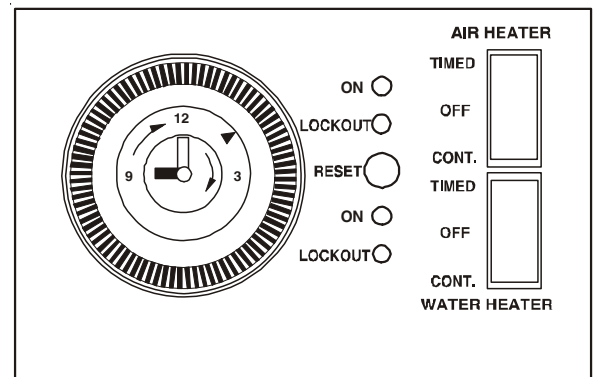

Fig.2
- 1.5 Set the “AIR HEATER” switch on the time control to “CONT” After a period of 15-20 seconds the burner will ignite automatically, indicated by the green LED light marked ‘ON’ on the indicator panel (see Fig. 2). Shortly afterwards the air circulation fan will start.